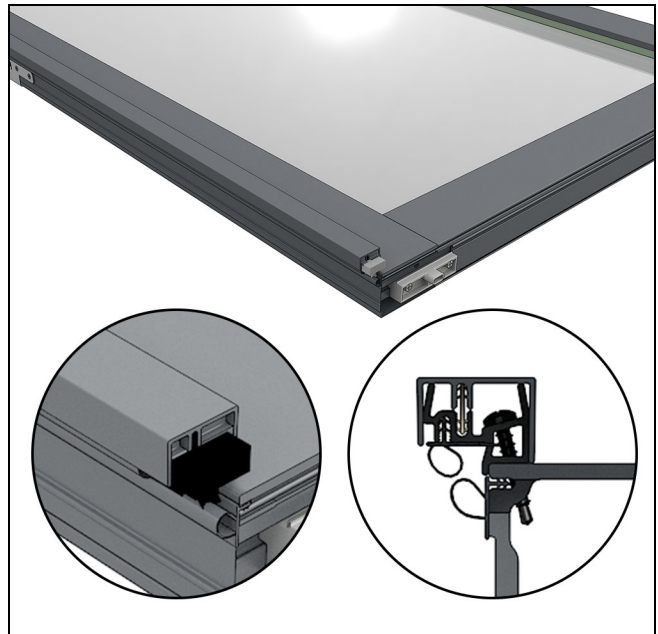

Figure 27
2. On stationary panels, press the astragal cover into the astragal base. Make sure the end of the astragal cover is flush with the ends of the base at the top and bottom and not covering the dust block. See Figure 27.